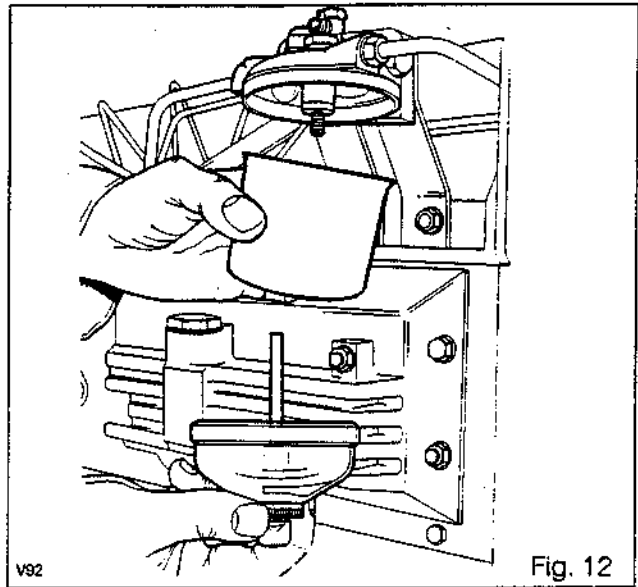

Fig. 12
**Drain the fuel filter(s) every 100 hours**, by opening the tap(s) to allow water and sediment to run out, close the taps, then operate the fuel lift pump (Fig. 12).